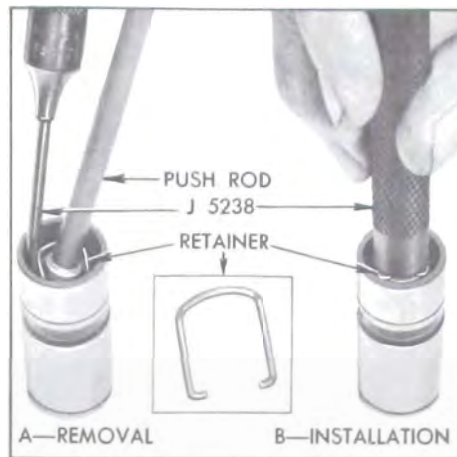

Figure 2-30—Removing and Installing Plunger Retainer
1. Disassemble each valve lifter by using a push rod to hold down the push rod seat while removing the plunger retainer from the lifter body, using Retainer Remover J-5238. See Figure 2-30, View A. Remove push rod seat and plunger from lifter body.
1a. If a plunger sticks in lifter body place lifter in large end of Plunger Remover J-4160-A, with plunger inward. While holding lifter with thumb, rap the open end of remover against a block of wood with just enough force to jar the plunger from body. See Figure 2-30.
3. Rinse push rod seat and plunger retainer, place these parts in end of body and depress with handle of Remover J-5238 until retainer engages groove in body. See Figure 2-30, View B.